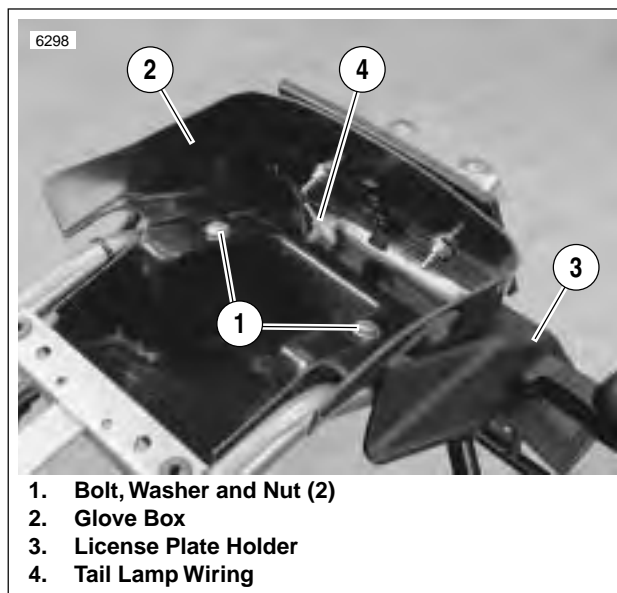

Figure 2-104. Assembled Glove Box/License Plate Holder
2. See Figure 2-104. Place license plate holder (3) on frame. Install turn signals. See 7.3 TURN SIGNALS.
3. Place glove box (2) on license plate holder. Secure with two bolts, washers and nuts (1).
4. Thread tail lamp wiring (4) through hole in glove box.